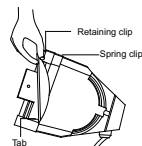

Figure 3
3. Hold the lens by the edge, and position it so the convex side faces the back of the fixture (Figure 3).